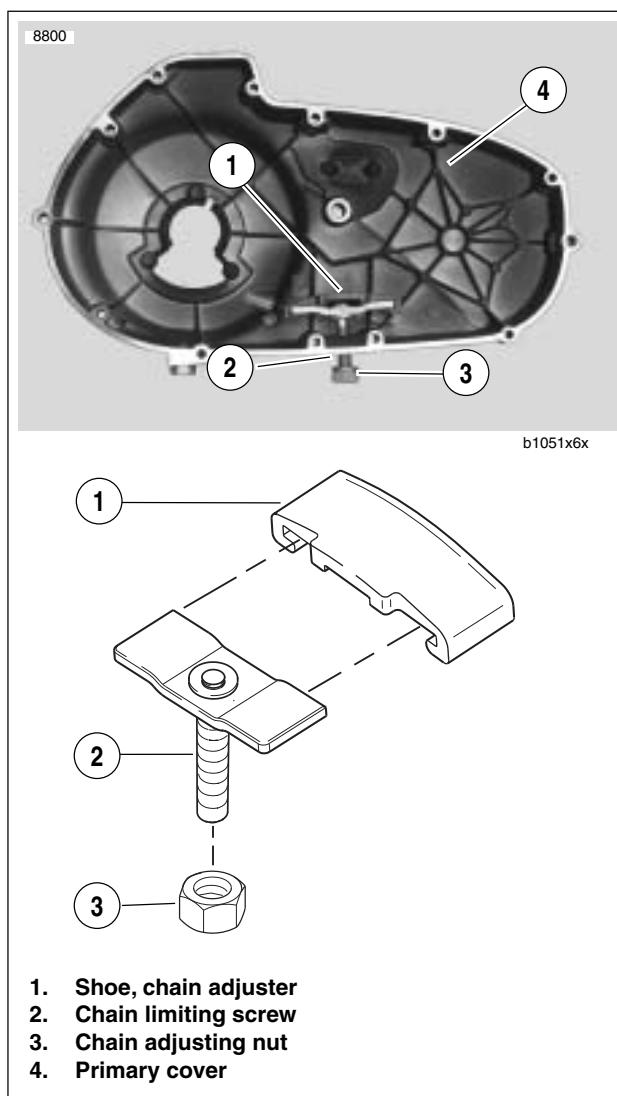

Figure 6-4. Primary Chain Adjuster
1. See Figure 6-4. Remove locknut (3) from adjuster screw (2). Turn adjuster screw out of threaded boss in primary cover (4).
2. Slide shoe (1) off plate (2) (shoe must be slid off plate toward closed or blind side of shoe).
3. See Figure 6-4. Inspect primary chain adjuster shoe (1). If badly worn or damaged, it must be replaced.
4. Place plate (2) into slot at open end of shoe. Slide shoe over plate until plate is against closed (blind) side of shoe.
5. Position adjuster inside primary cover (4) with closed side of shoe against cover. Thread adjuster screw (2) all the way into tapped boss at bottom of primary cover.
6. At outside of cover, thread locknut (3) onto adjuster screw with nylon sealing surface toward cover. A 1/4-inch allen wrench may be inserted into end of adjuster screw to hold it while threading lock nut.